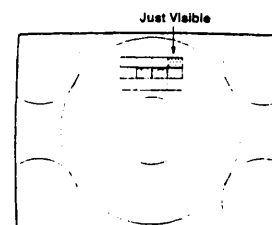

Fig 7.
- 3: Adjust Sub-Brightness (VR301) to get nine step of the grey scale just illuminate in monoscope pattern as shown in fig 7.
Colour Purity Adjustment (see fig 7)